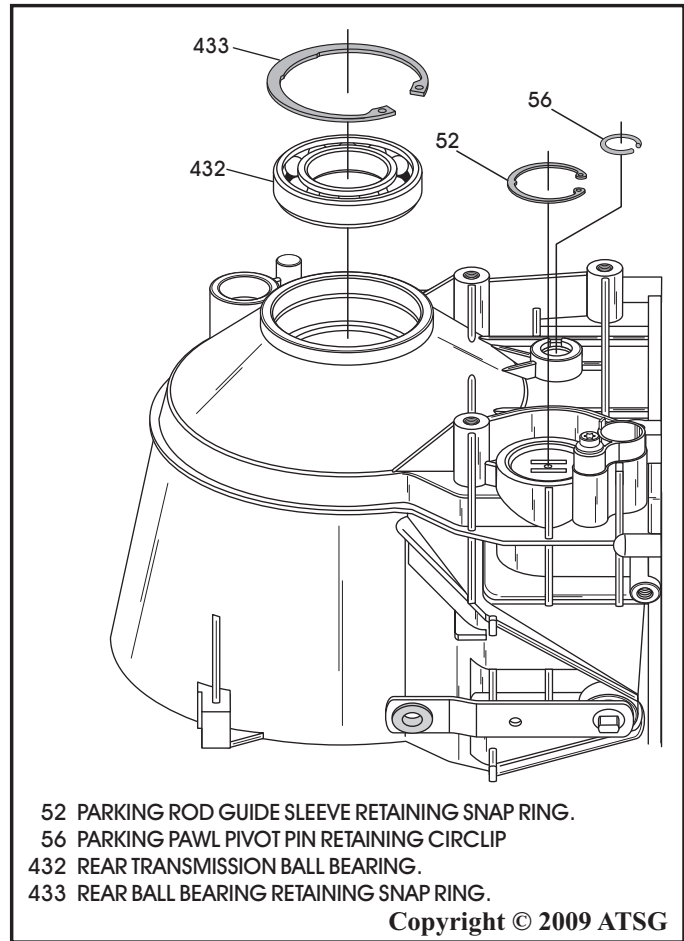

Figure 56
35. Rotate transmission case so that rear is facing up, as shown in Figure 56.
36. Remove the ball bearing retaining snap ring, as shown in Figure 56.
37. Remove the ball bearing from the case, as shown in Figure 56.
38. Remove the parking rod guide sleeve retaining snap ring (52), in preparation for removing the internal linkage (See Figure 56).
39. Remove the parking pawl pivot pin retaining circlip (56), in preparation for removing the internal linkage (See Figure 56).